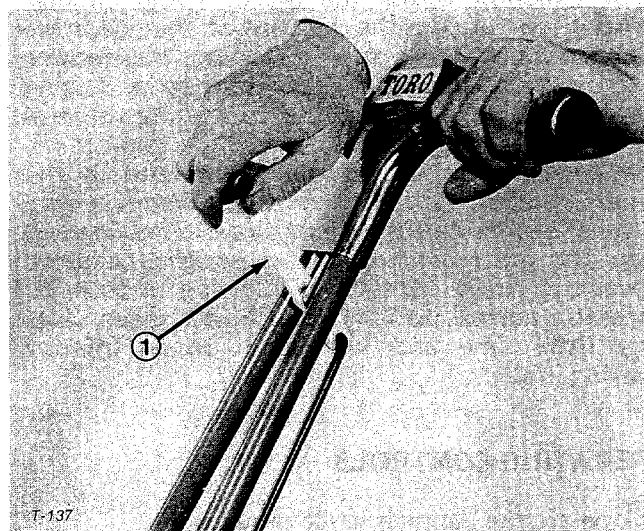

Figure 19
2. Start engine, push down on handle to elevate cutting unit, push traction clutch control lever forward and transport machine onto collar of green (Fig. 19).